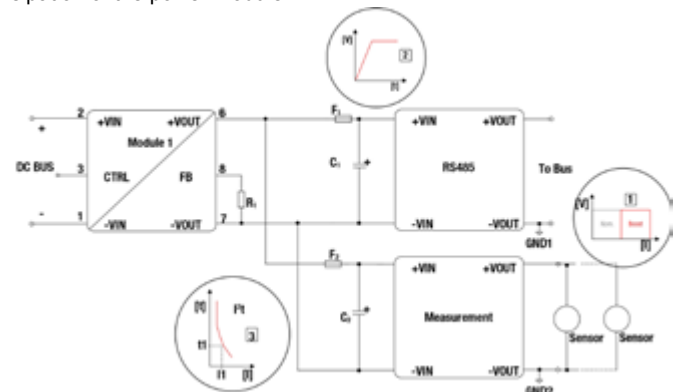

Figure 4: Power boost abilities
- Unforecasted increases in load demands are supported – see figure 4 [1].
- Monotonic charging of capacitive loads is provided without voltage dips – see figure 4 [2].
- Tripping input fuses of downstream applications in case of an overload (ensures higher current for safe tripping) – see fuse tripping characteristic see figure 4 [3].